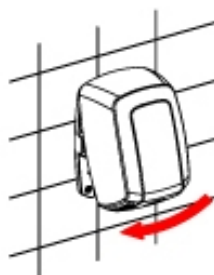

Figure 9
- Place the screws for fixing the casing to the base, fixing them tightly using the special spanner provided (Figure 9 and 10).